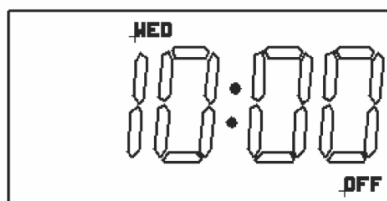

Figure B-21: Boost OFF
- Pressing '-' (Boost) three times cancels the Boost ON period. Refer to Figure B-21.